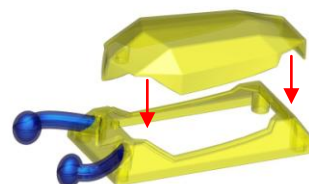

Fig. 4
3. Install the body top (11) over the body frame (10). (Fig. 4)